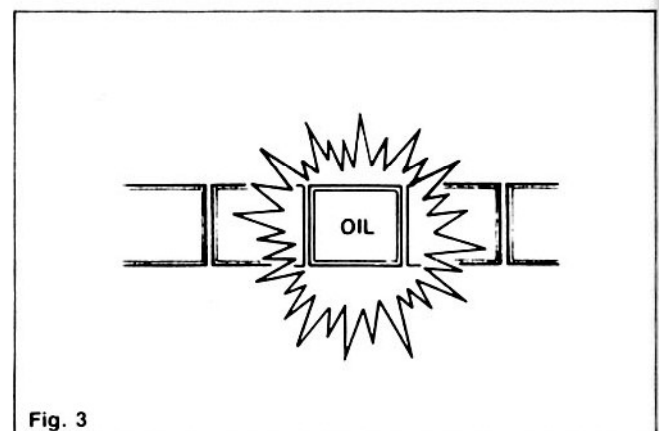

Fig. 3
3. Turn the ignition switch to the "ON" position, the oil level warning light should come on. (fig. 3)
5. The Oil Level Warning Light should turn "ON" within 90 seconds after the engine has been started. (fig. 3)